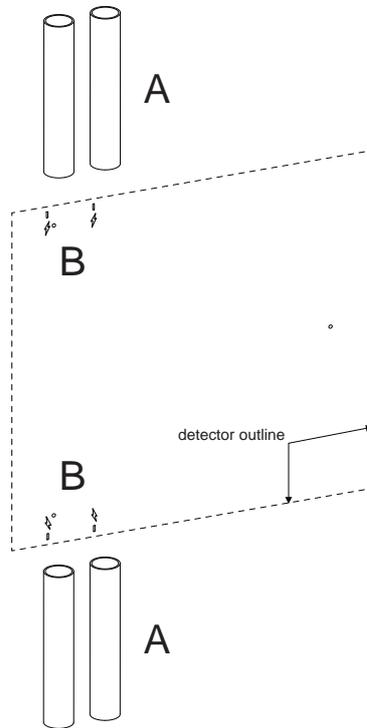

Figure 4-8: Position mounting template
1. Position the mounting template to allow electrical conduit (A) to line up with the alignment marks (B) (Figure 4-8):